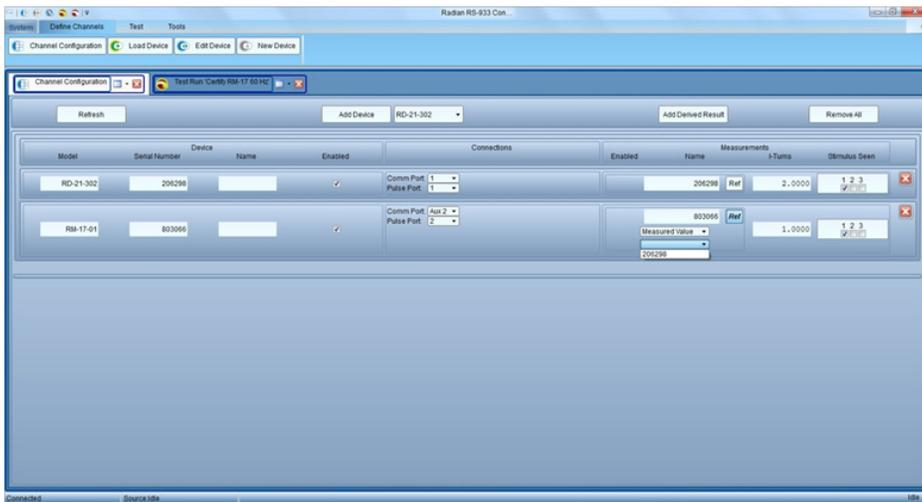

Figure 4
- Under the Measured Value selection, another drop down box appears. Select the name/serial number of the RD-23 reference standard being used with this RM-17 under test. See Figure 4. The Channel Configuration is now complete for this test.